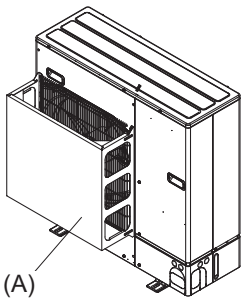

Fig. 2-4
2. Install an optional air outlet guide and air guide if the unit is installed in a location where strong winds from a typhoon, etc. may directly enter the air outlet. (Fig. 2-4)